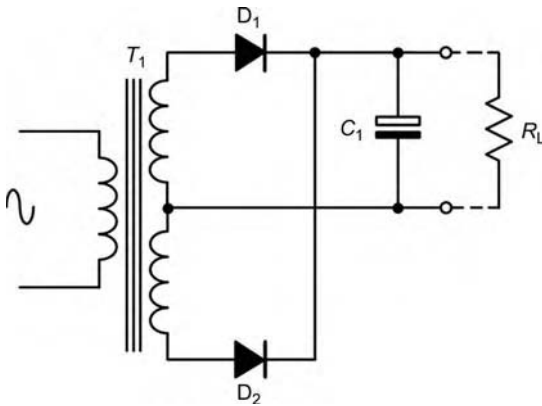

Figure 6.143
33. The function of C_1 in the circuit shown in Figure 6.143 is to: [B2]